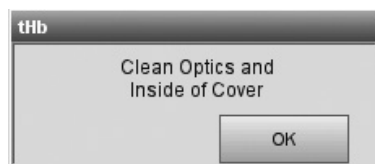

Fig. 2-17 Clean Optics
- Gently clean the optics window and the inside top cover of the sample chamber with a soft lint free cloth (Fig. 2-17).